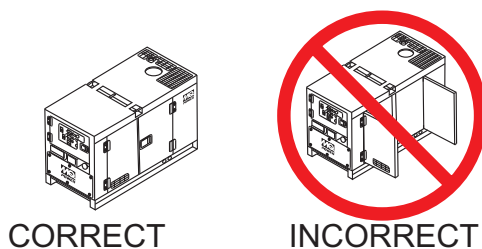

Figure 29. Engine Enclosure Doors
5. Close all engine enclosure doors (Figure 29).